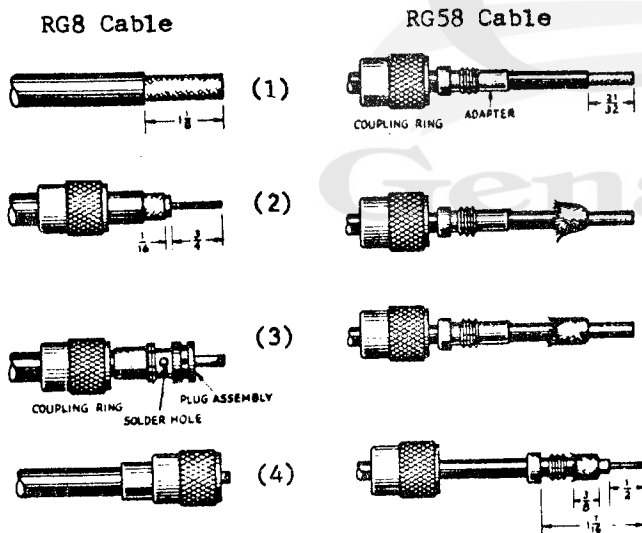

Figure 2-3. Connector Assembly
The procedure for installing a PL-259 (83-1SP) antenna connector is dependent upon type coaxial cable used. The PL-259 is installed directly on 0.405" OD cable such as RG8/A; whereas, the plug requires an adapter when used with the 0.195" OD cable such as RG58/A. The procedures for both cable types are given below, and are shown in Figure 2-3.
1. Trim end of cable flush; remove vinyl jacket from 1-1/8" of cable as shown in Figure 2-3(1). DO NOT nick braid.
2. Bare 3/4" of center conductor. Trim braided shield 1/16" and tin. Slide coupling ring on cable. See Figure 2-3(2).
1. Trim end of cable flush; remove vinyl jacket from 21/32" of cable as shown in Figure 2-3(1). DO NOT nick braid. Slide the coupling ring and adapter on cable.
2. Fan braid slightly and fold back over cable. See Figure 2-3(2).
3. Compress braid around cable, Figure 2-3(3), and position adapter to the dimension given in Figure 2-3(4). Press braid over adapter sleeve and trim to dimension shown.